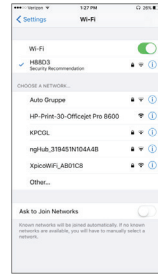

Figure 6: Available WiFi networks
2. Search for available Wi-Fi networks. See Figure 6.